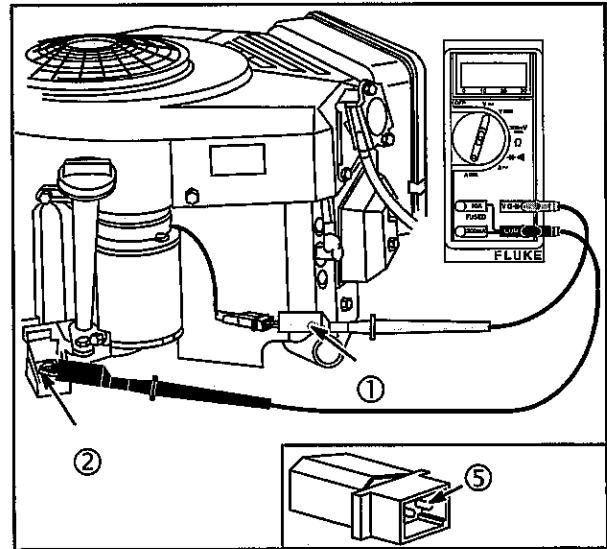

Fig. 18
4. Attach RED test lead clip (1) to AC output terminal (5), **Fig. 18**.
5. Attach BLACK test lead clip (2) to engine ground.